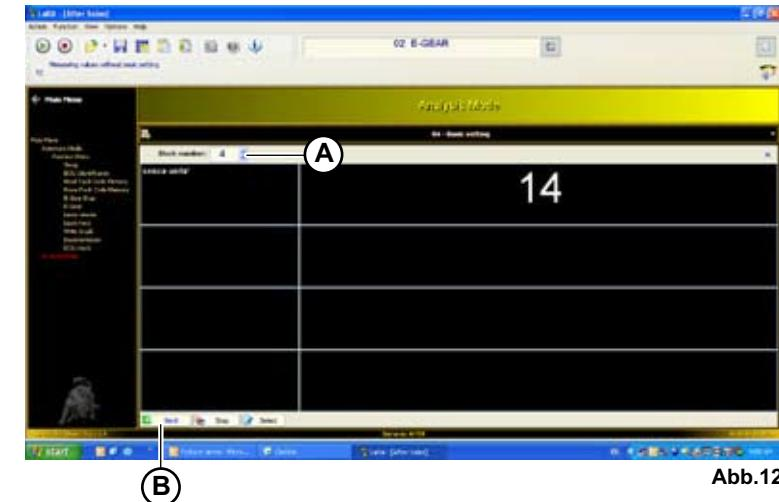

Abb.12
- Select routine 4 inside the block number (**A-Fig.12**).
- Start the connection () and press the start push-button (**B-Fig.12**).